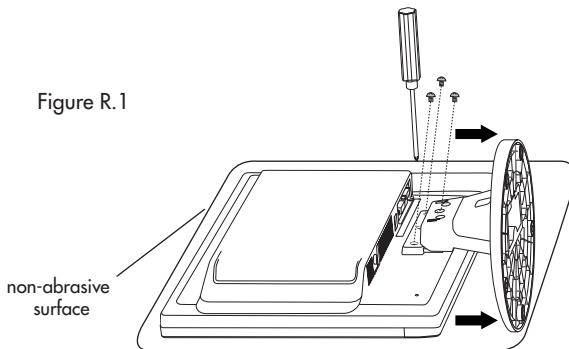

Figure R.1
2. Place monitor face down on a nonabrasive surface (**Figure R.1**).
3. Remove the 3 screws connecting the monitor to the stand and slide the stand off from the LCD (**Figure R.1**).